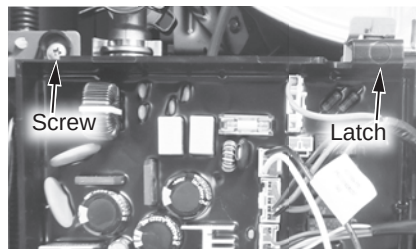

Figure 38 - Control board location
- 2 Locate the two (2) screws at the bottom of the cabinet cover. Use a Phillips screwdriver to remove the screws. Place screws aside in a safe place for reinstallation.
- 4 Locate the screw securing the control board panel as shown in Figure 38. Use a Phillips screwdriver to remove the screw and place it aside in a safe place for reinstallation.